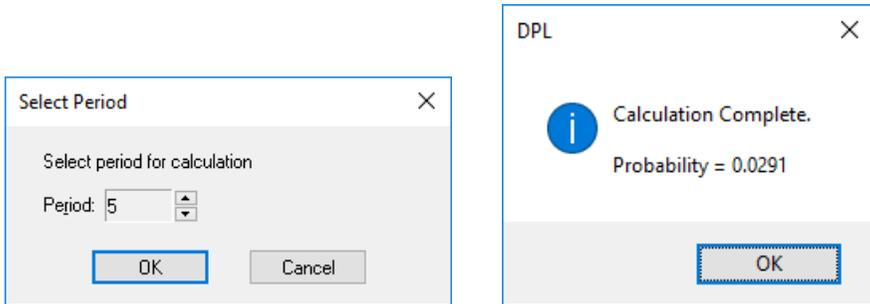

Figure 8-5. Select Period and Calculation Complete Dialog for Period 5
- ⇒ Set the Period to 5 using the Period spin box arrows as shown in Figure 8-5.